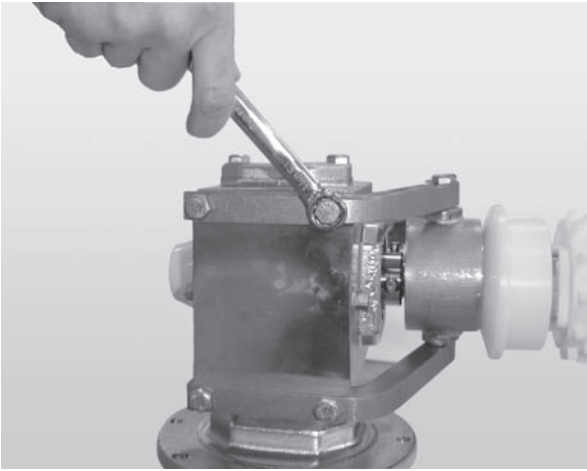

Figure 63
4. Unbolt the drive assembly and slide it off the bearing spindle (**Figure 63**).